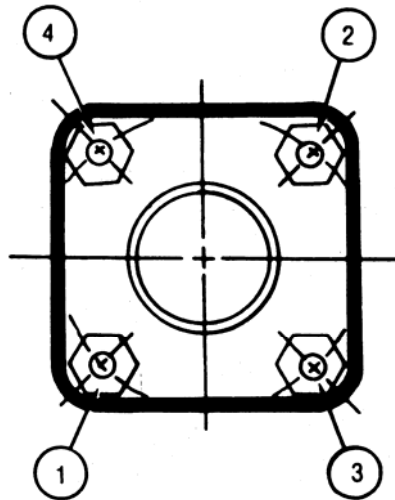

Figure 4
A. Sight flow indicators should be disassembled by holding sight flow indicator firmly and loosening bolts by following the bolt loosening sequence shown in Figure 4.